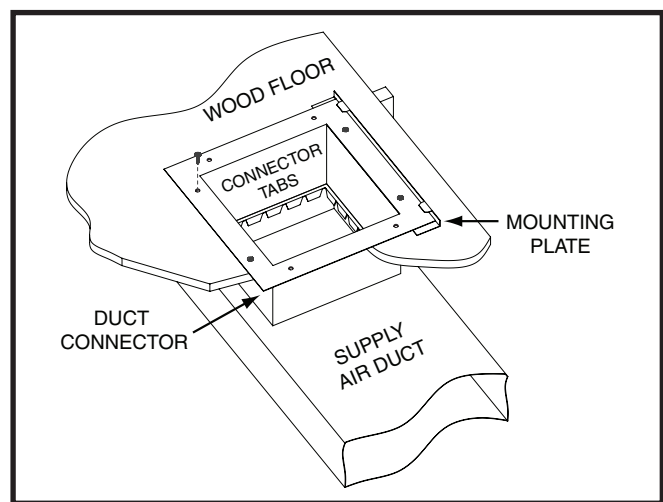

Figure 5. Standard Duct Connector Installed
Duct connectors are recommended for heated air distribution in under-the-floor duct systems. With this system, Appliances may be installed on combustible flooring without a separate sub-base. The Appliance rear mounting plate (Figure 5 (page 7)) supplied with the duct connectors is recommended for use with this type of installation.
- Mark the cut-out area on the supply air duct by tracing around the connector tabs of the duct connector. See Figure 5 (page 7).
- Install the optional mounting plate (Figure 5) under the back side of the duct connector. Align the screw holes in both components.